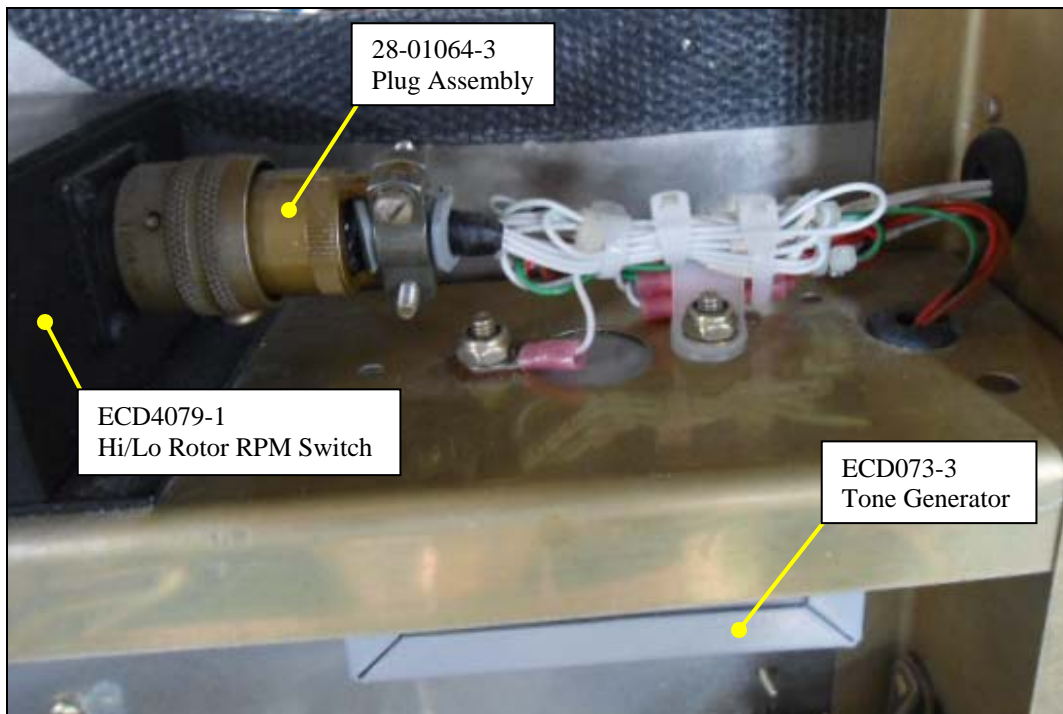

Figure 1. Hi/Lo Rotor RPM Switch Installation
An example of a complete Hi/Lo Rotor RPM Switch Installation is shown in Figure 1.
6.3 INSTALLATION (See Figure 1)
- 7) Tie wrap the wire harness as required with remaining kit-supplied cable ties. Refer to Figure 1 for an example of a complete installation.